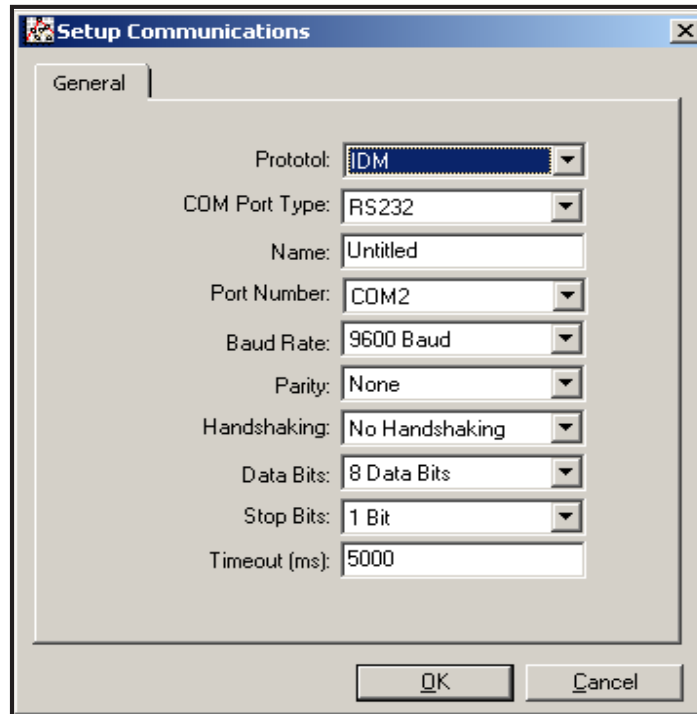

Figure 19: *Setup Communications* Screen
4. Click on the “*Communications Port*” option to select it. The *Setup Communications* screen appears similar to Figure 19.